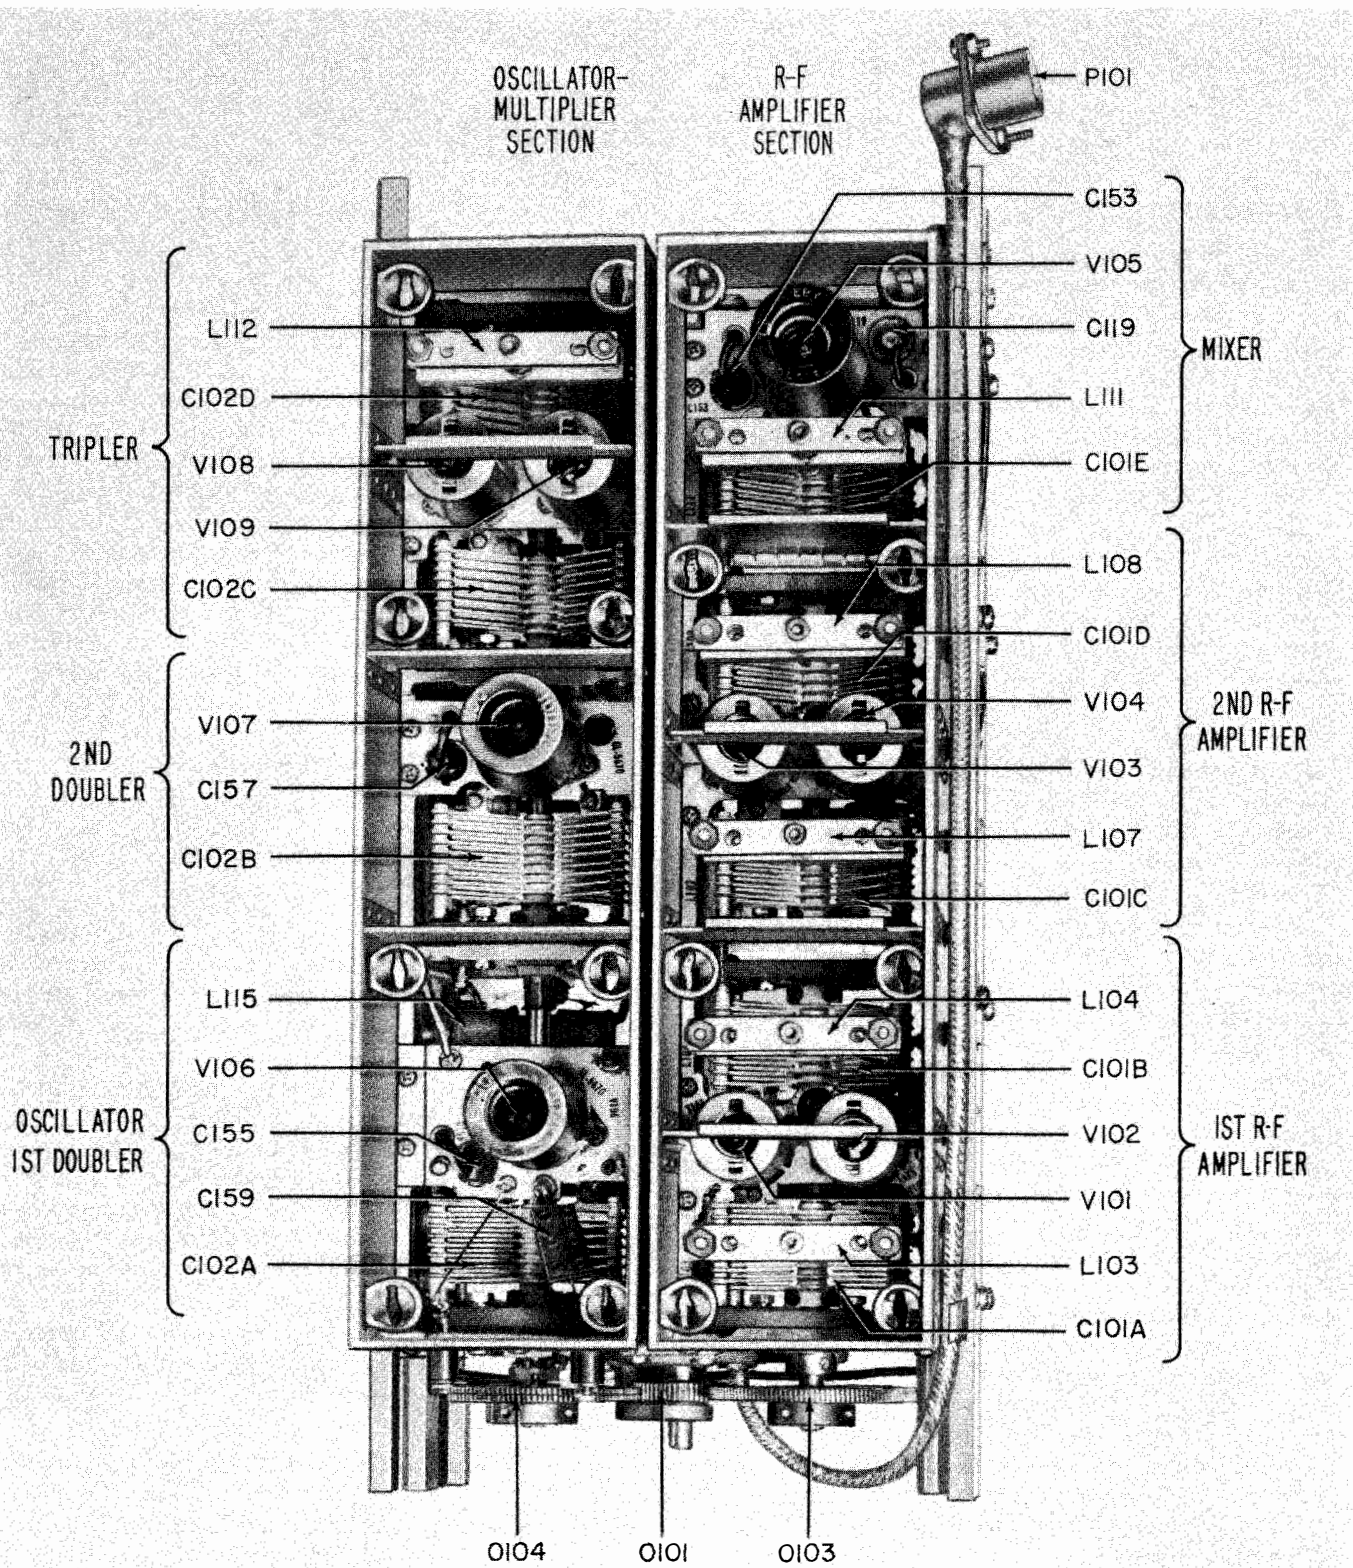

Figure 2-2. Preselector Viewed from Left Side of Unit, Shielding Covers Removed
a. PRESELECTOR. (See figures 2-2 and 2-3.)
Tuning of the various stages is accomplished by capacitor C102, which is a four-section capacitor, each section being of the split-stator type. The use of split-stator capacitors in the balanced tank circuits permits the use of a grounded rotor to reduce inter-sectional capacitance. Rotor grounding is accomplished by wiping contacts. Since no appreciable r-f currents flow through these contacts, the inherent noise associated with wiping contacts is not present. Capacitor C102 is geared to the five-section capacitor, C101, to provide single-control tuning of the receiver; see figures 2-2 and 2-3. The trimmer inductance of the tripler stage and the trimmer capacitors utilized in all the stages of the oscillator-multiplier section are integral parts of the tuning capacitor, similar to those described previously in subparagraph 2a(1)(b), this section.